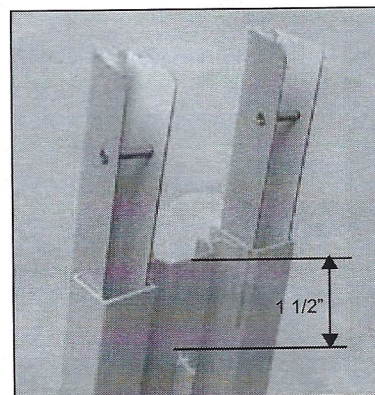

Figure 10
- Turn the jamb carrier over and remove 1 1/2" (38) of the jamb carrier between the balance tube and rivet pins. See figure 10.